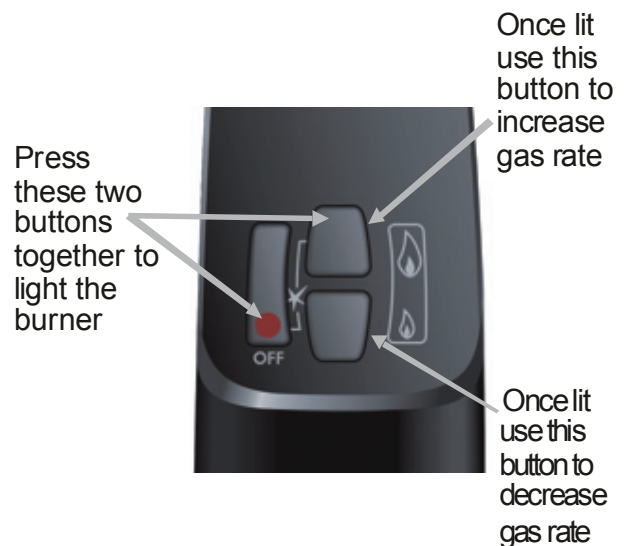

Figure 11 – Total Control Handset
4. To adjust the gas rate to desired setting press the 🔥 (large flame) to increase the flame height or 🔥 (small flame) to decrease the flame height on the handset (see **Figure 11**).